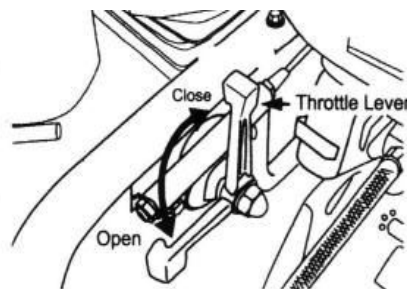

Fig 9
8. To start the tamping rammer action, move the throttle lever (Fig 9) quickly from **IDLE** (close) to the **FULL OPEN** position. **DO NOT** move the throttle lever slowly as this may cause damage to the clutch or spring.